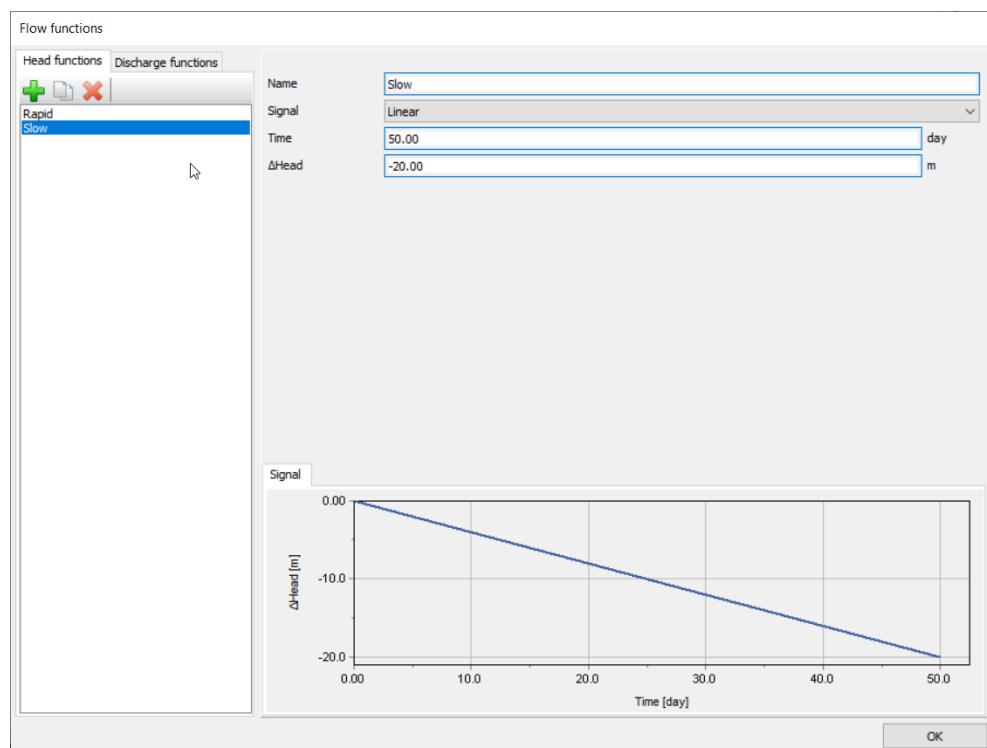

Figure 7-8: The flow function for the slow drawdown case
- 9 Create a new flow function (see Figure 7-8 \(p. 142\)) following the steps previously described.